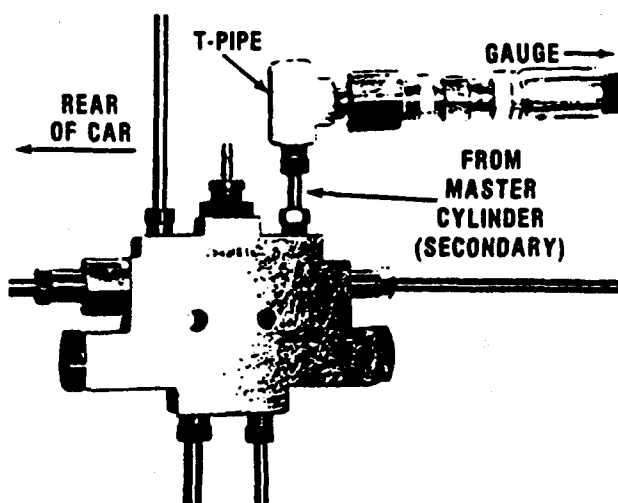

Fig. 16 — Installation of T-pipe and gauge.
2. Remove the master cylinder secondary port line, then attach a T-pipe and gauge to the valve (Fig. 16).